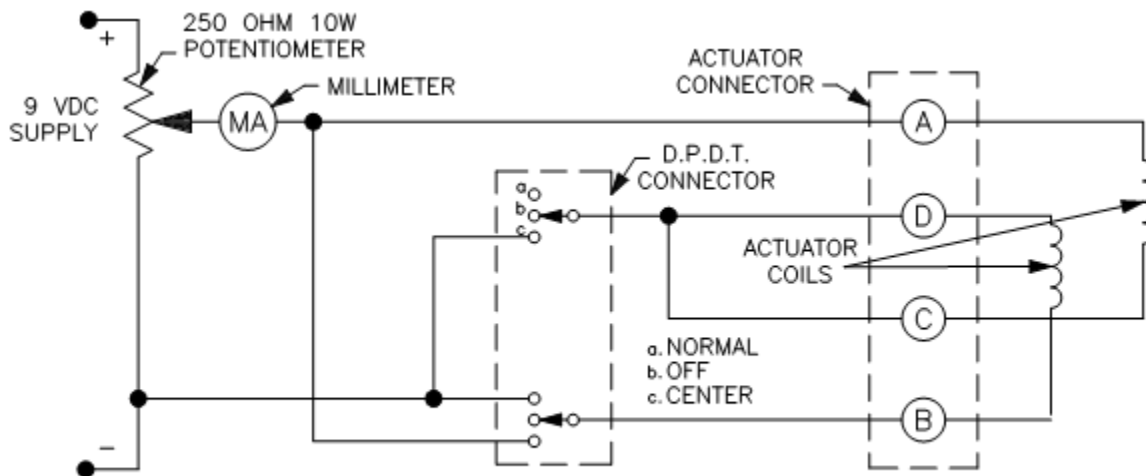

Figure 3-1. EGB Electrical Test Circuit
1. Connect the test circuit to the terminal block on the actuator as shown in Figure 3-1. Set the test switch to OFF. Remove the fuel linkage to the engine or test stand.